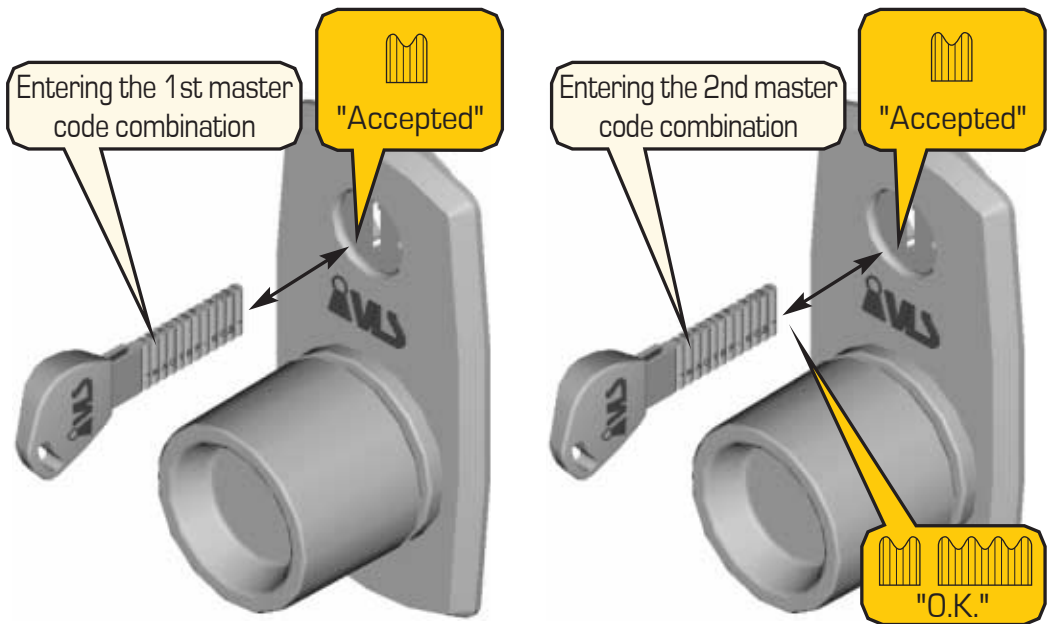

Figure 24 – Initiating programming mode – entering the master code
1. In order to initiate the programming mode, enter your master code (fig. 24). For this purpose:
**1.** In order to initiate the programming mode, please enter your master code (figure 24). For this purpose:
**1.** In order to initiate the programming mode, please enter your master code (fig. 24). For this purpose:
**1.** In order to enter the programming mode, enter your master code (figure 24). For this purpose: